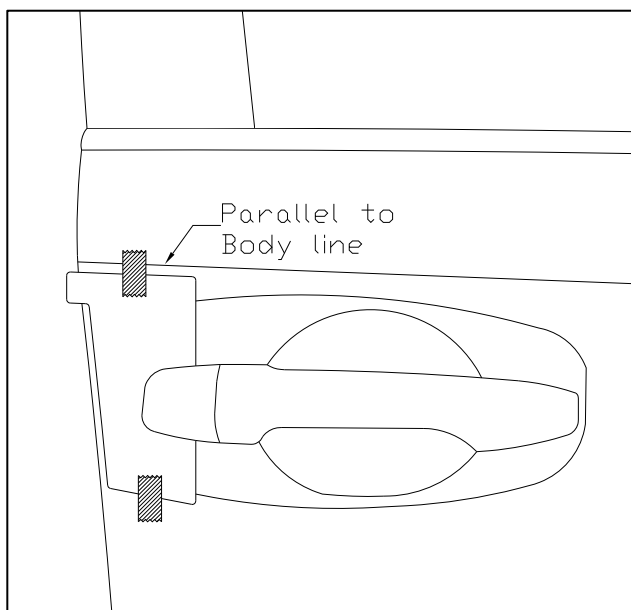

Fig. 1-9
- (l) Select front door template and fit notch around door handle. Adjust as needed to ensure it is parallel to body line directly above the template. If needed, tape into place using painter's masking tape. (Fig 1-9)